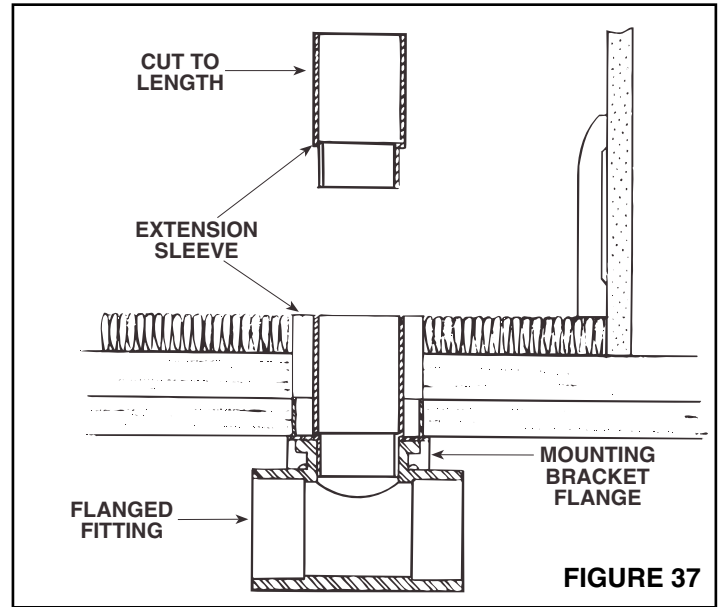

FIGURE 37
4. Refer to Figure 37. Large end of Model 399 extension sleeve should be cut to length to allow proper seating of inlet against floor or carpet.